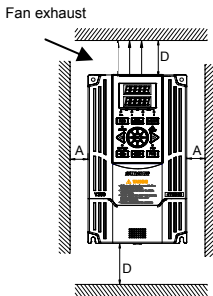

Figure 3-1 Spacing distance for installation
Requirements for installation spacing distance of single frequency inverter are as shown in figure 3-1. Reserve enough space around the frequency inverter.
- As shown in Figure 3-1 and 3-2: $A \geq 50\text{mm}$, $B \geq 30\text{mm}$, $C \geq 20\text{mm}$, $D \geq 120\text{mm}$